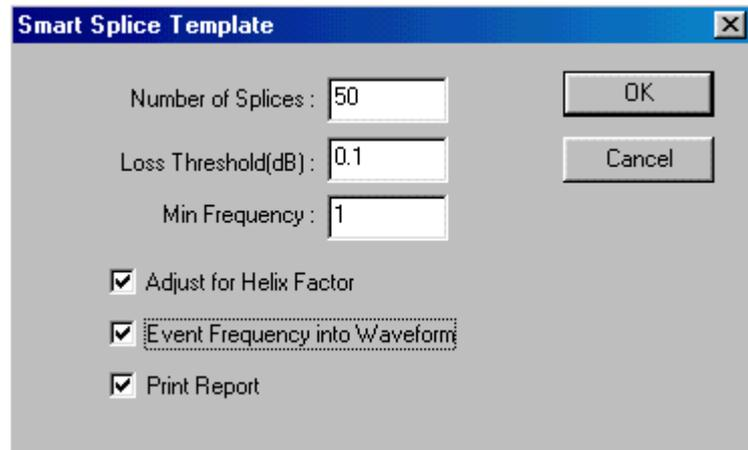

Figure 11-2: Smart Splice Template Dialog Box
8. Set up the dialog box as shown in Figure 11-2.